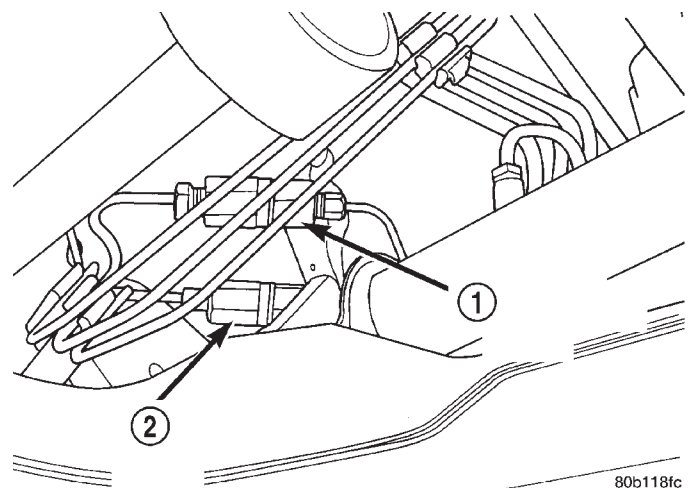

Fig. 77 Non-ABS Brake Proportioning Valve Location
(1) Remove hydraulic brake line (Fig. 77) from proportioning valve controlling the rear wheel of the vehicle which has premature wheel skid.
(2) Then remove the proportioning valve from the rear brake line.
(1) Install proportioning valve in rear brake line and hand tighten both tube nuts until they are fully seated in proportioning valve (Fig. 77).
(2) Tighten both brake line tube nuts at the proportioning valve to a torque of 17 N·m (145 in. lbs.).
(3) Bleed the affected brake line. Refer to BASE BRAKE BLEEDING in SERVICE PROCEDURES in this section.